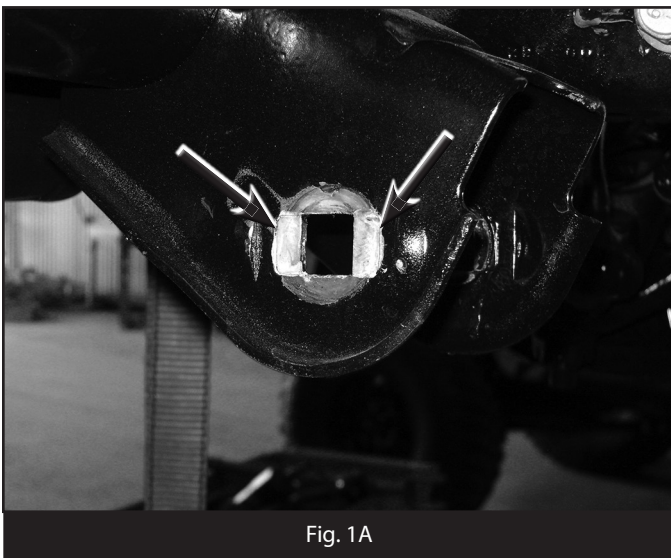

Fig. 1A
4. Locate the perforated edges of the lower control arm mount holes in the axle mount plates (Fig 1A). These rectangular sections of material on each side of the square mount hole must be removed to change the hole to a slot. This can be done with a rotary grinding tool, small air saw, special knock-out removal tool, etc.